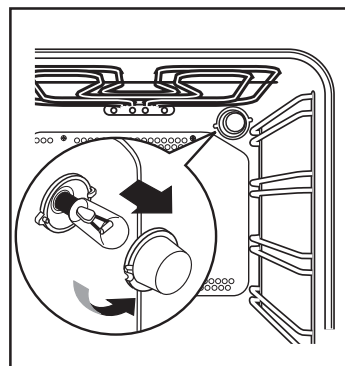

Fig. 7
2. Push in and turn the glass cover anticlockwise (Fig. 7).